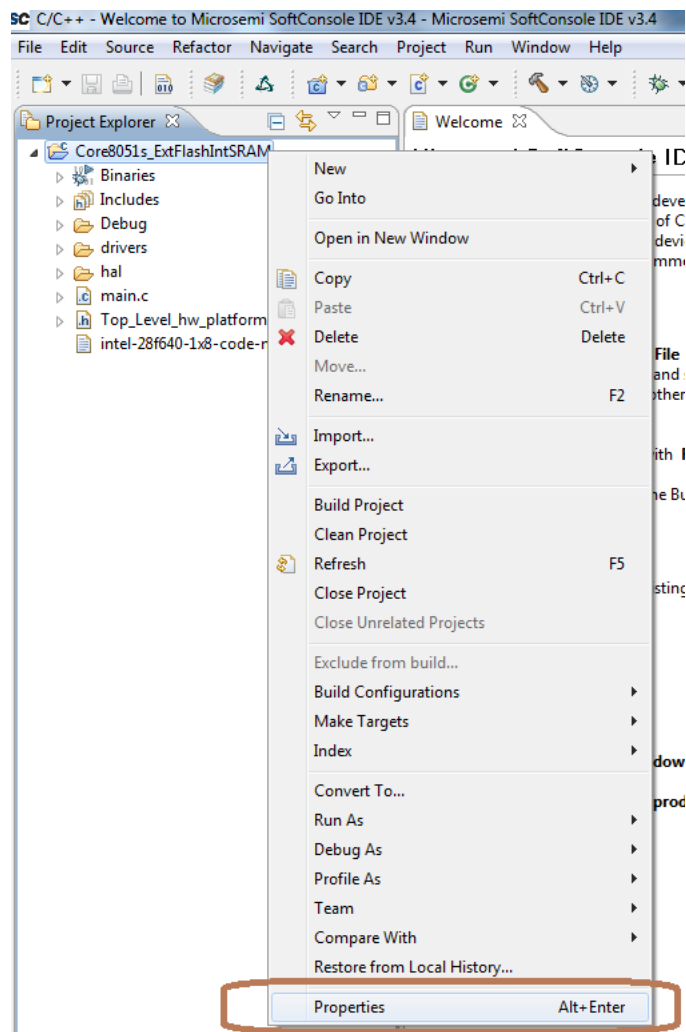

Figure 16 • Project Properties
4. Right-click the **Core8051s_ExtFlashIntSRAM** on the left pane and click **Properties**, as shown in Figure 16. The **Properties** window is displayed as shown in Figure 16.